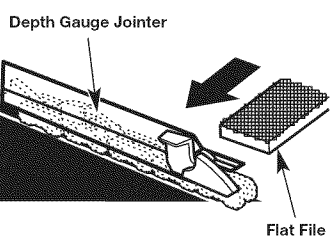
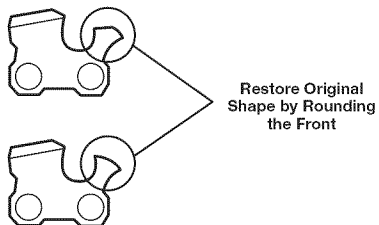

Fig. 46
Fig. 47
- Use a flat file and a depth gauge jointer to lower all gauges uniformly (Fig. 46). Use a 1/32 inch (0.6 mm) depth gauge jointer. After lowering each depth gauge, restore the original shape by rounding the front (Fig. 47). Be careful not to damage adjoining drive links with the edge of the file.